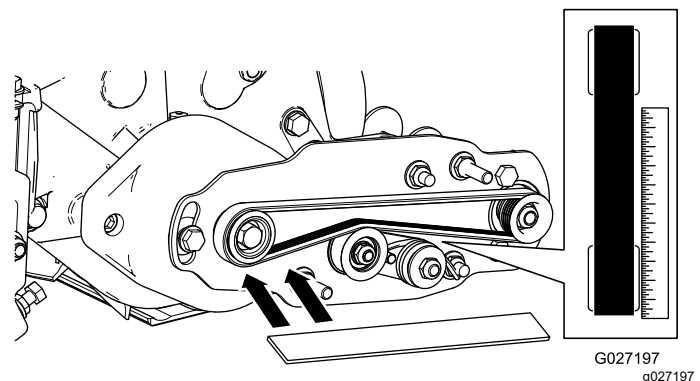

Figure 23
1. Lay a straightedge along the outer face of the drive pulley (Figure 23).